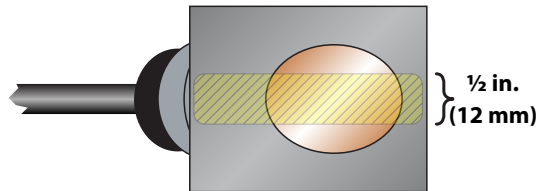

Figure 11: Application of couplant
For DTTR, DTTN, DTTL and DTTH transducers, place a single bead of couplant, approximately 1/2 inch (12 mm) thick, on the flat face of the transducer. See *Figure 11*. Couplant is provided with the transducers. Generally, a silicone-based grease is used as an acoustic couplant, but any good quality grease-like substance that is rated to not flow at the operating temperature of the pipe is acceptable. For pipe surface temperature over 130° F (55° C), use high temperature acoustic couplant such as Krytox® LVP (P.N. D002-2011-012). For installations that must be silicone free, use Molykote G-N couplant (P.N. D002-2011-009).
- For DTTR, DTTN, D TTL and DTTH transducers, place a single bead of couplant, approximately 1/2 inch (12 mm) thick, on the flat face of the transducer. See Figure 11. Generally, a silicone-based grease is used as an acoustic couplant, but any good quality grease-like substance that is rated to not flow at the operating temperature of the pipe is acceptable.
See *Figure 11* on page 20.